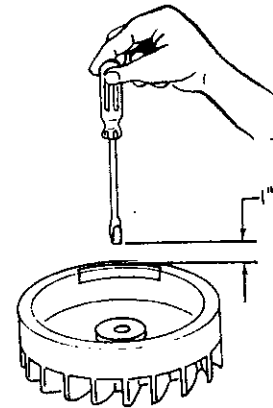

Figure 16
- C. The Alnico magnets cast into the flywheel rarely lose their magnetic strength; however, if magnets are suspected faulty, place flywheel upside-down on a wooden surface. Hold a screwdriver by the extreme end of handle with point down. Move blade to within one inch (2.5 cm) of magnets at which time magnets should attract screwdriver blade against magnet. (See Figure 16.)